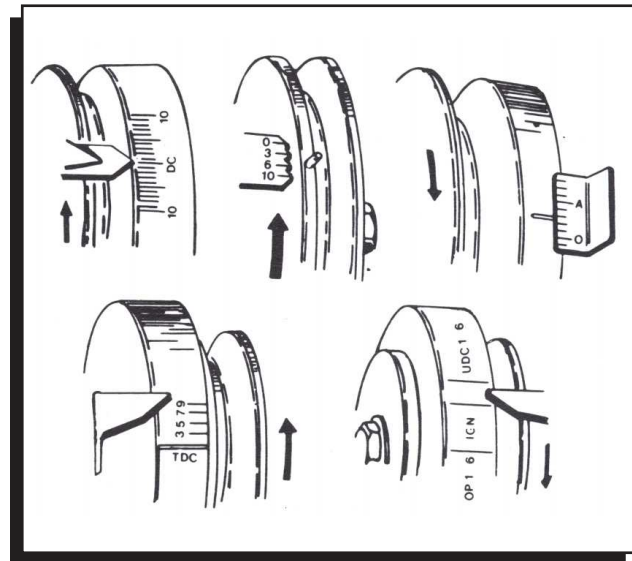

Figure 3 Typical Engine Timing Marks.
4. With the engine stopped, clean any dirt from the timing marks. Figure 3 shows several typical timing marks and the rotation of the engine.